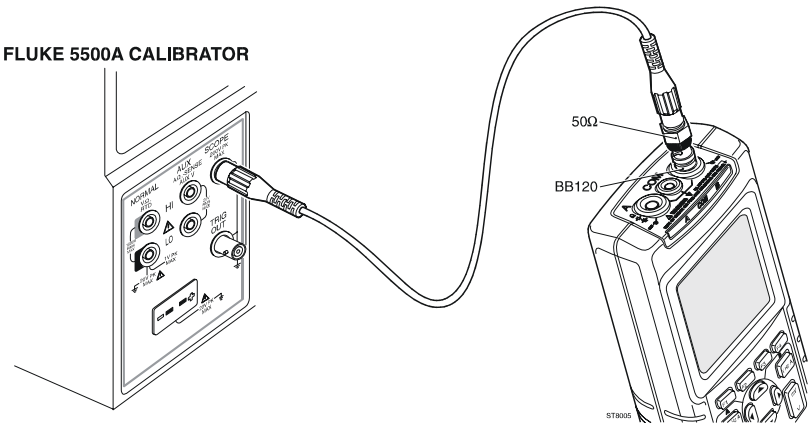

Figure 3-4. Test Tool Input B to 5500A Scope Output 50Ω
- 1. Connect the test tool to the 5500A as shown in Figure 3-4.
1. Connect the test tool to the 5500A as for the previous test (see Figure 3-4).